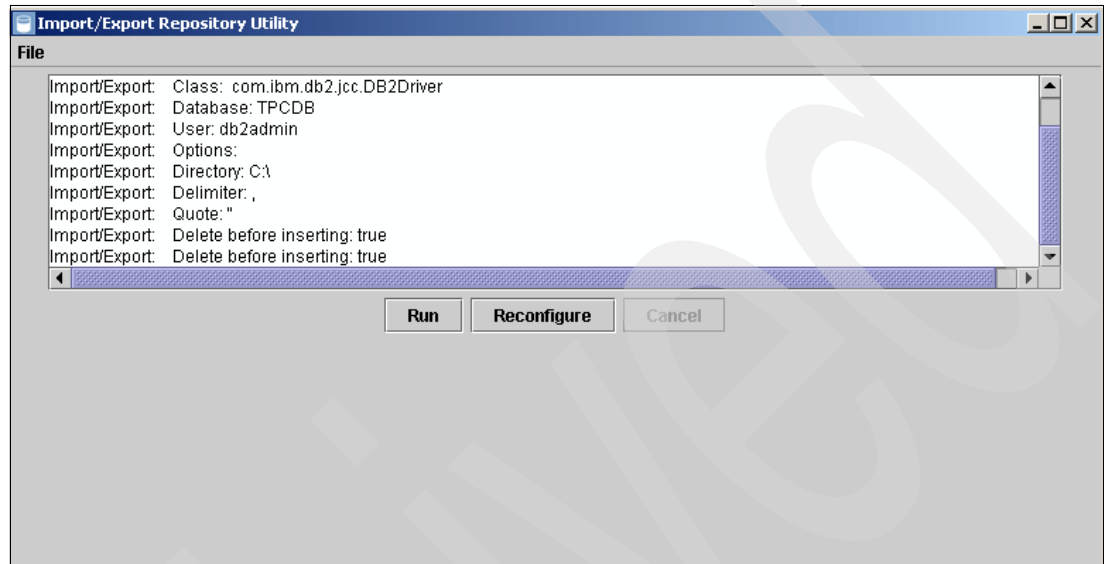

Figure 6-90 Display of the information that was entered in the previous panel
6. Click **Finish**. The Import/Export Repository Utility displays the information entered in the previous panel (see Figure 6-90).